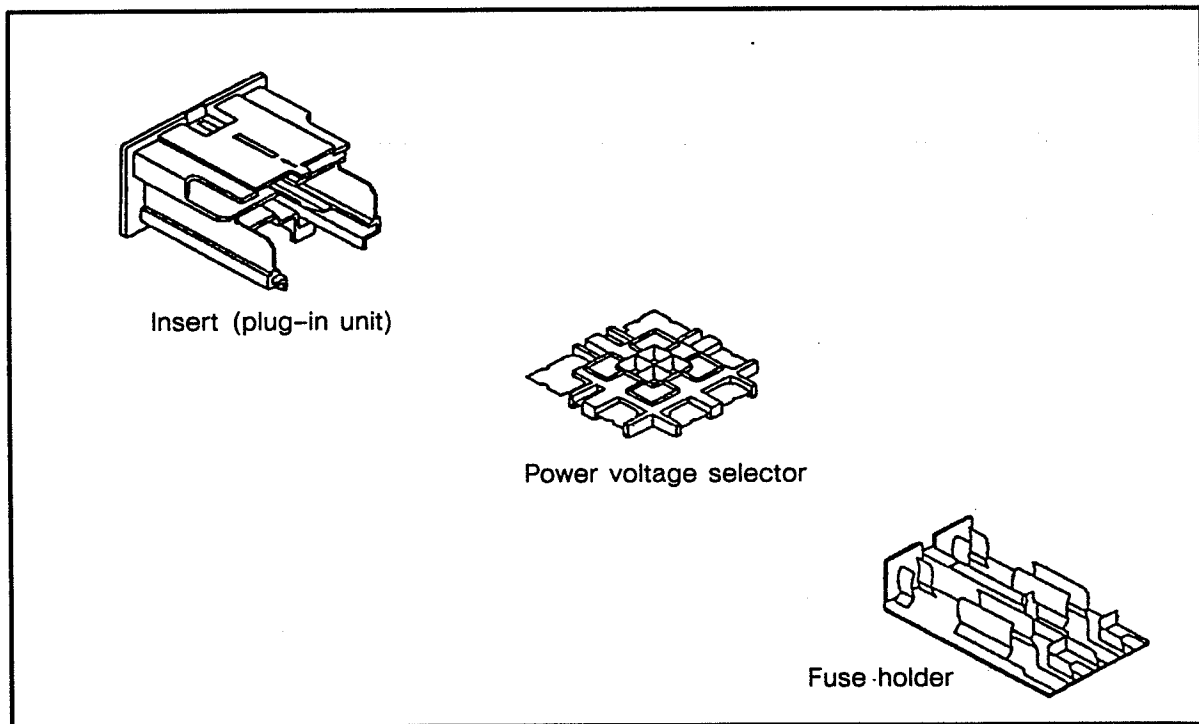

Figure 1.13 Insert/power voltage selector/fuse holder
- Lift the black housing casing slightly (arrow marking) and pull out the green voltage selector (figure 1.13).
- A snap-on hook is located in the middle of the back of the insert. Lift this hook and pull out the fuse element (figure 1.13).